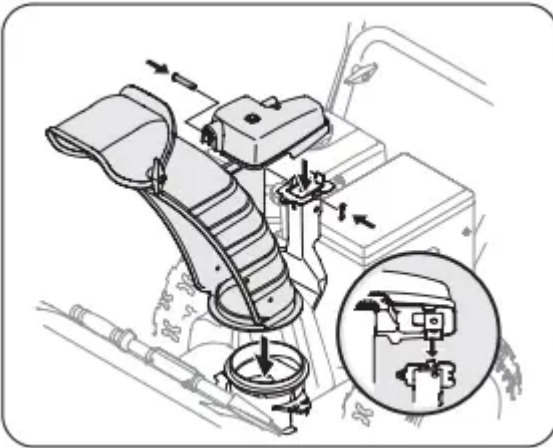

Figure 14
- Place chute assembly onto chute base and secure chute control head to chute support bracket with clevis pin and cotter pin removed in Step 1. See Figure 14.